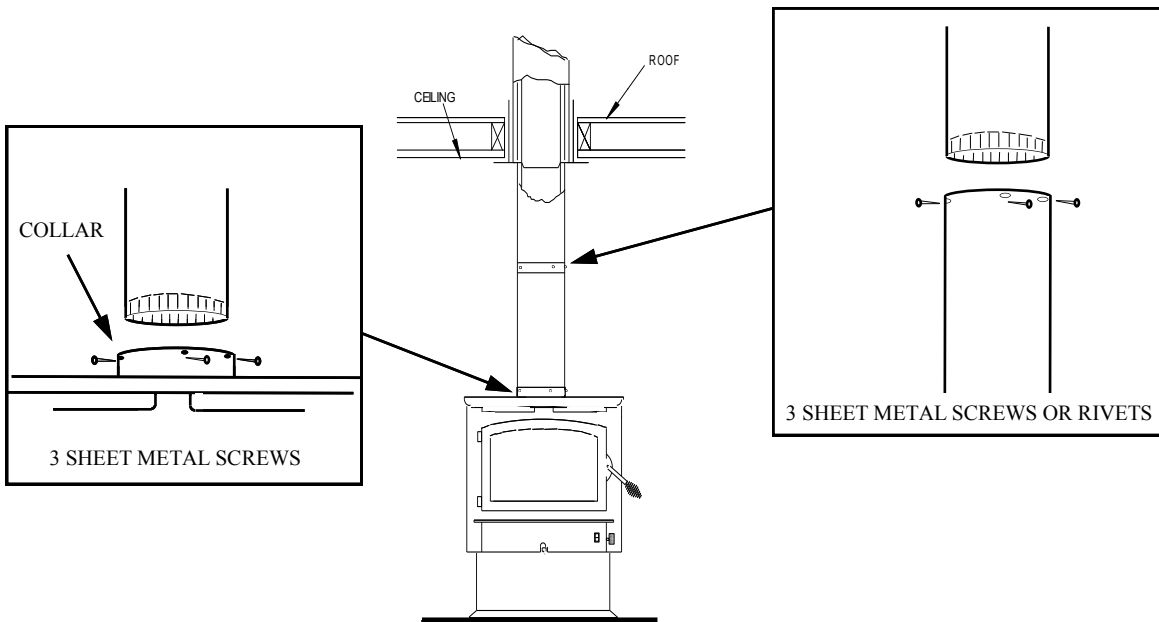

Figure 14
1. Suspend a plumb bob from ceiling above unit so that weight is hanging in center of flue exit. (A small weight on a string will serve as a plumb bob). Mark ceiling where string is suspended to locate center of chimney. (See Page 16, Figure 14).
Now connect stove and ceiling support box using #24 ga. minimum blue or black steel connector pipe (**DO NOT USE GALVANIZED PIPE**). Connect each section so crimped end faces downward and secure each section to each other using at least three (3) sheet metal screws or rivets. Also use three (3) sheet metal screws to fasten pipe to collar on heater. (See Page 16, Figure 14).
5. Connect chimney connector to tee-box using #24 ga. minimum blue or black steel connector pipe. **DO NOT** use galvanized pipe. Connect each section so the crimped end faces downward and secure each section to each other using three (3) sheet metal screws or rivets. (See page 15 Figure 14).